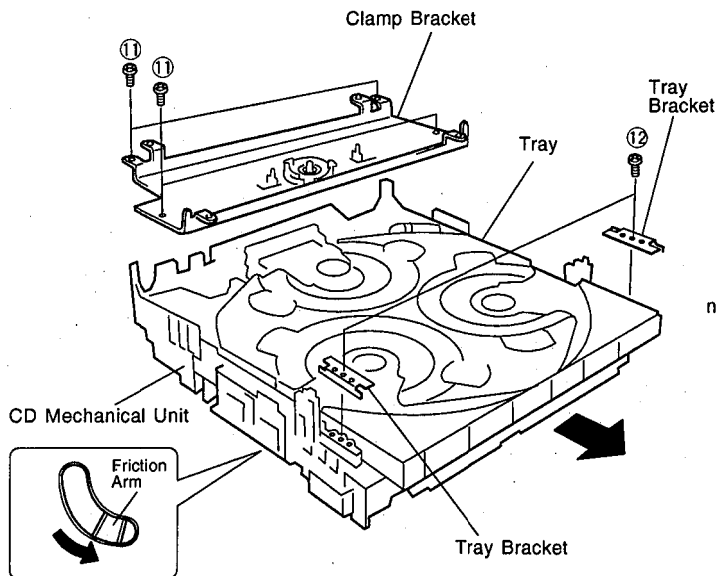

Fig. 10
- Remove 4 screws (⑪) and then remove the Clamp Bracket in Fig. 10.
- Remove 2 screws (⑫) and then remove the Tray Brackets in Fig. 10.
- Push the Friction Arm (the bottom side of the CD Mechanical Unit) with a screwdriver or the like and pull out the Tray forward as in Fig. 10.